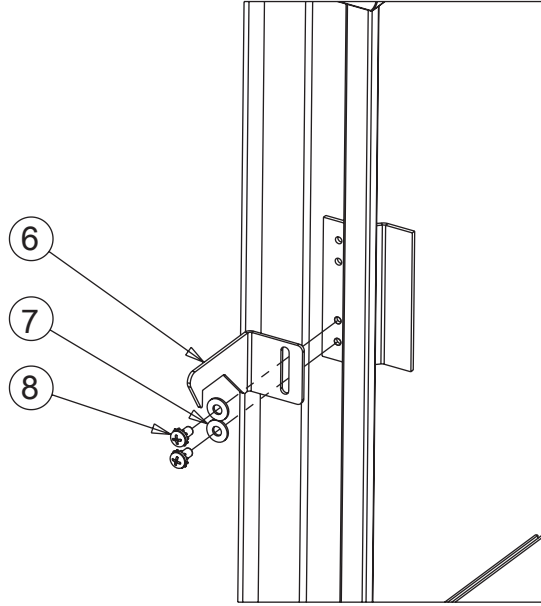

Figure 6
10. Referring to Figure 6, install the control enclosure adjustable door hook (Item 6) onto the door of the control enclosure using two 10-32 screws (Item 8) and #10 flat washers (Item 7) . Initially position the hook approximately two inches from the top of the door bracket.